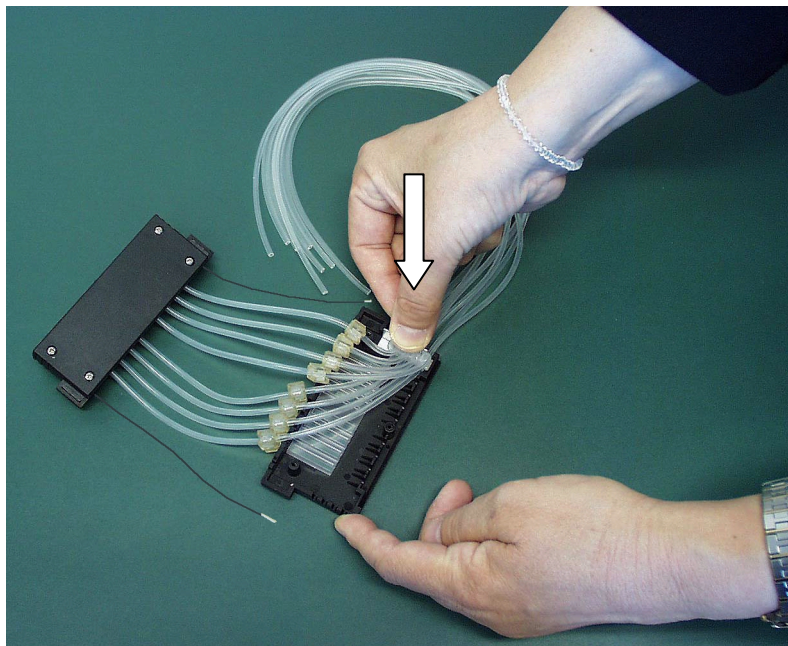

Fig. 7.23 Pressing the tubing identification plate into place
8. After that press the white tubing identification plate into place on the right-hand side of the bottom cover of the upper part of the dispensing cassette (*Fig. 7.23*).